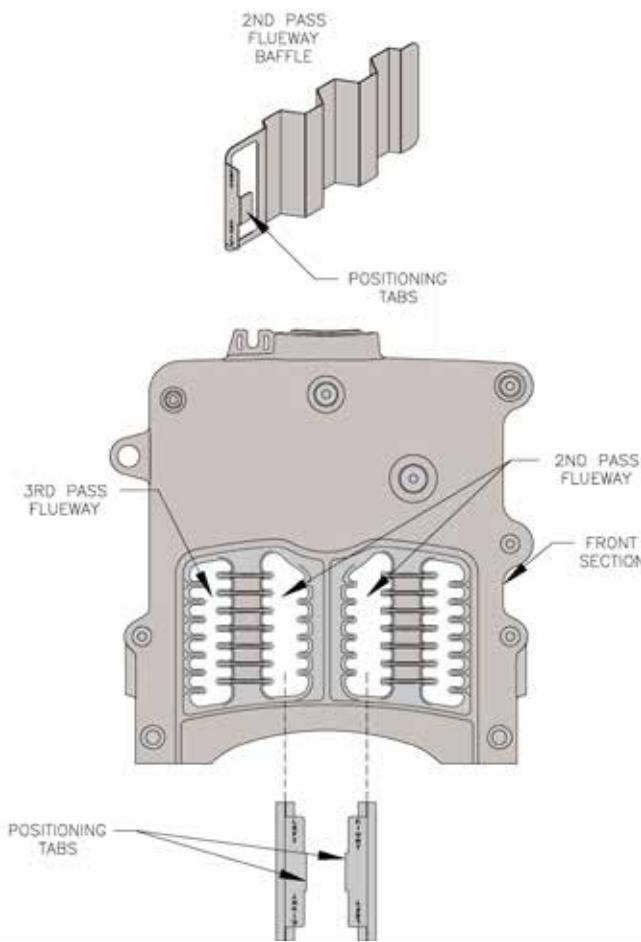

Figure 6: Flueway Baffle Positioning/Orientation in Flueways
1. To install flueway baffles, provided in miscellaneous part cartons, as follows, refer to Figure 6 and Table 2: